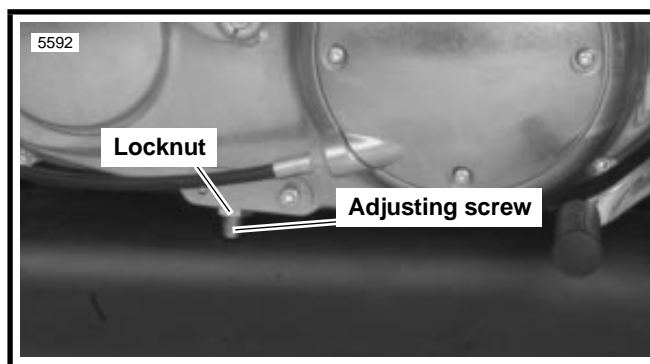

Figure 1-26. Primary Chain Adjustment
1. See Figure 1-26. Loosen locknut and turn adjusting screw: